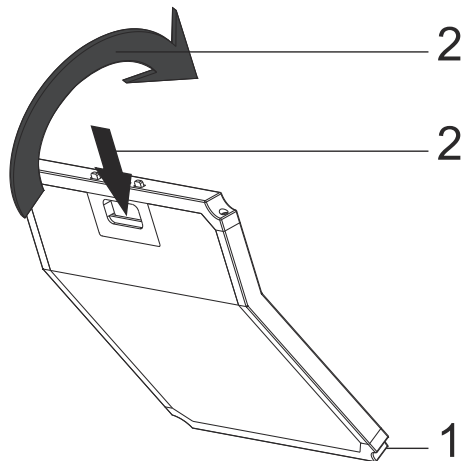

Fig. 7: CARBON FILTER
- 1-Place the lower part of the carbon filter to the motor cabinet. Fig. 7
- 2-Press on the tab of the carbon filter and push it forward, and ensure that the tabs of carbon filter are engaged and locked. Fig. 7